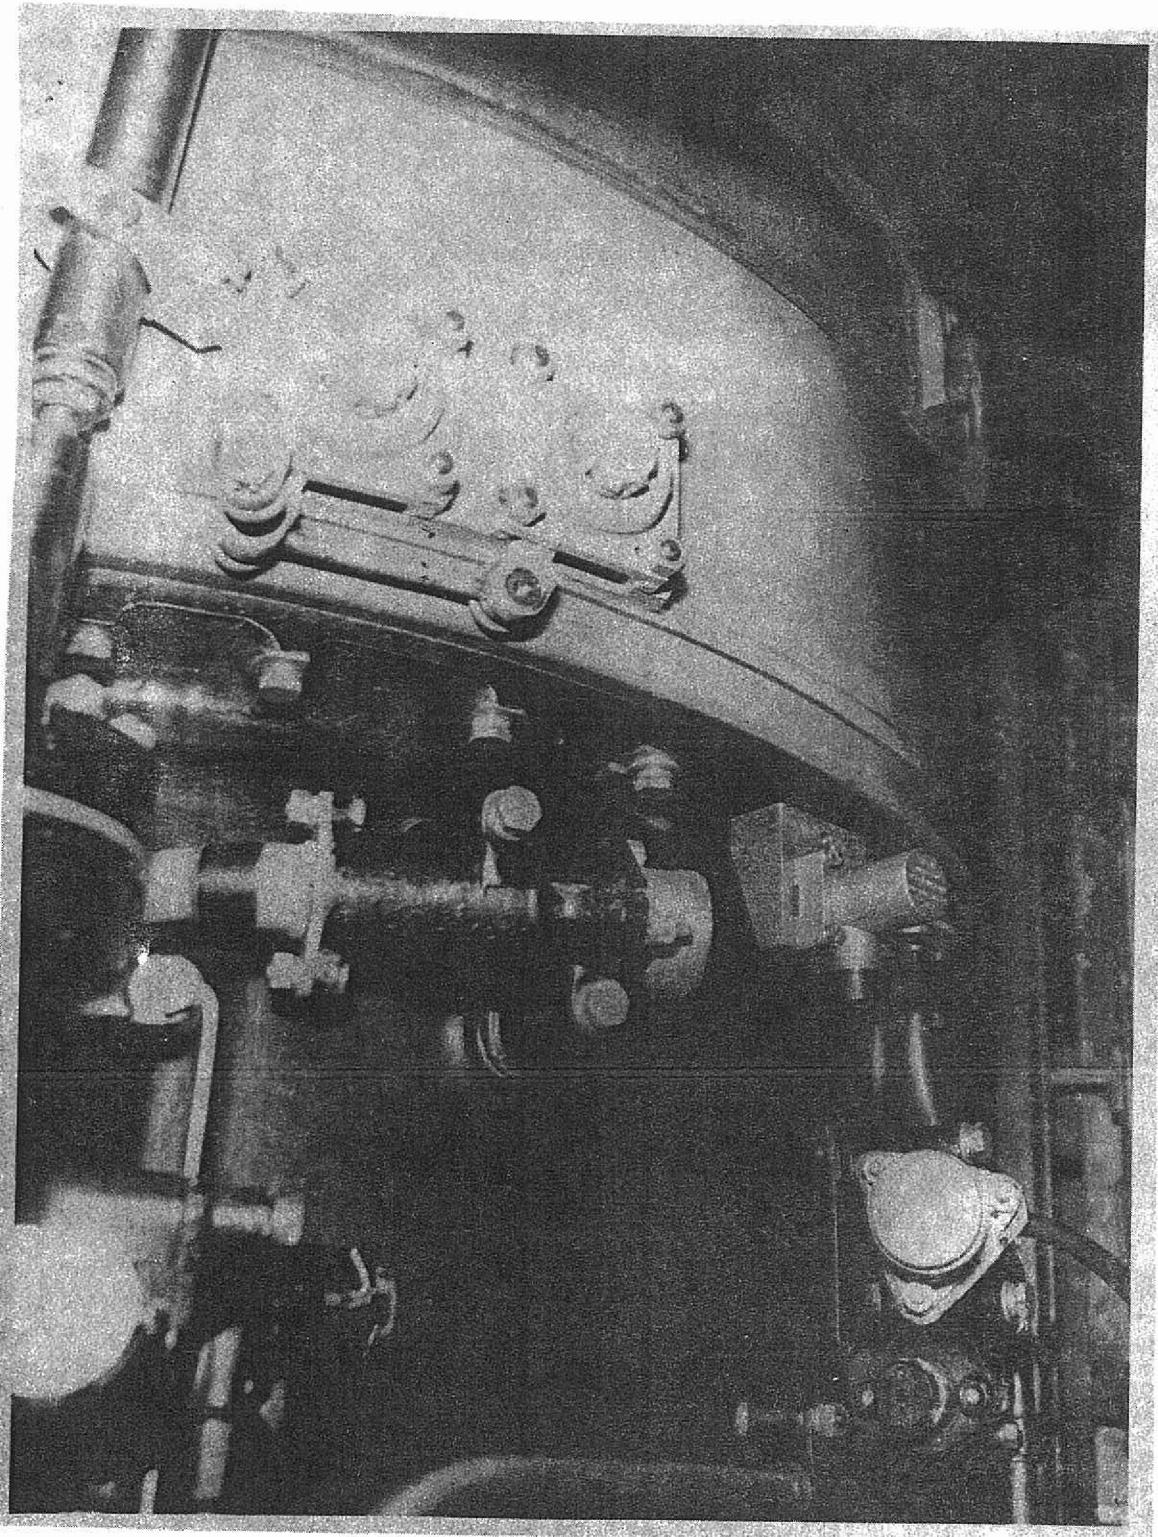
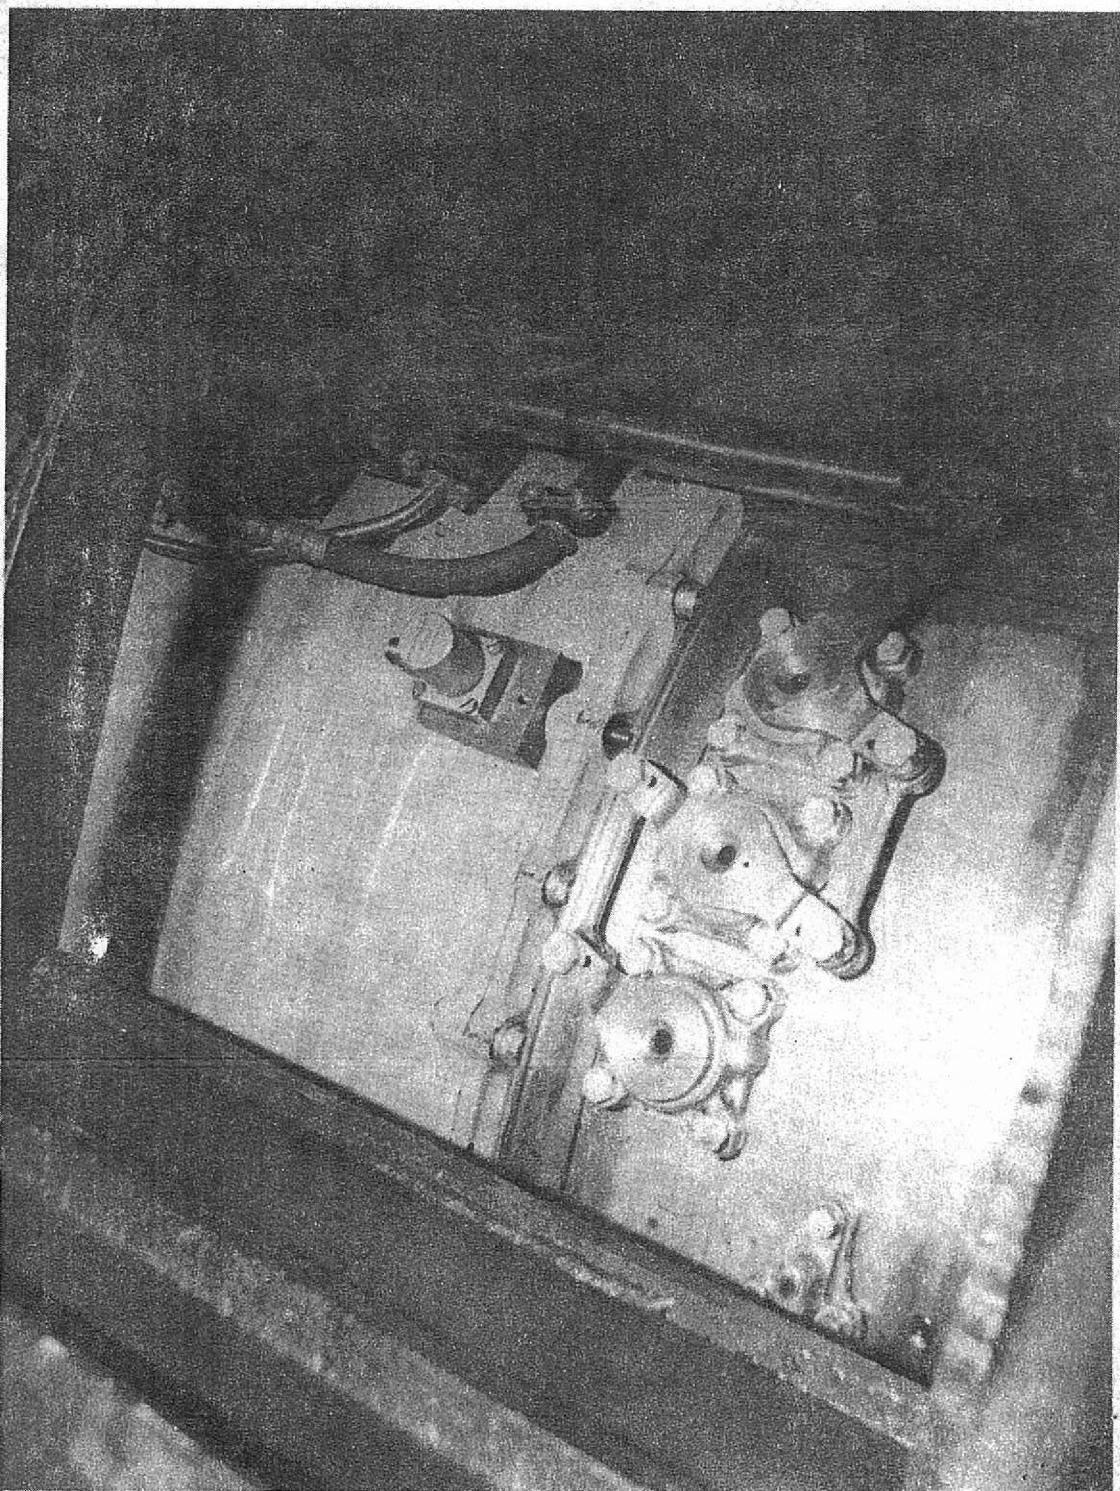

Fig.3 Avon 122 Accelerometer and Mounting Bracket Position
Fig. 4 Avon 207 Accelerometer and Mounting Bracket Position
5.3 Mounting bracket. Fit to engine on the compressor casing/front bearing housing joint at 5 o'clock position facing forward. (Fig.3 Avon 122, Fig.4 Avon 207).